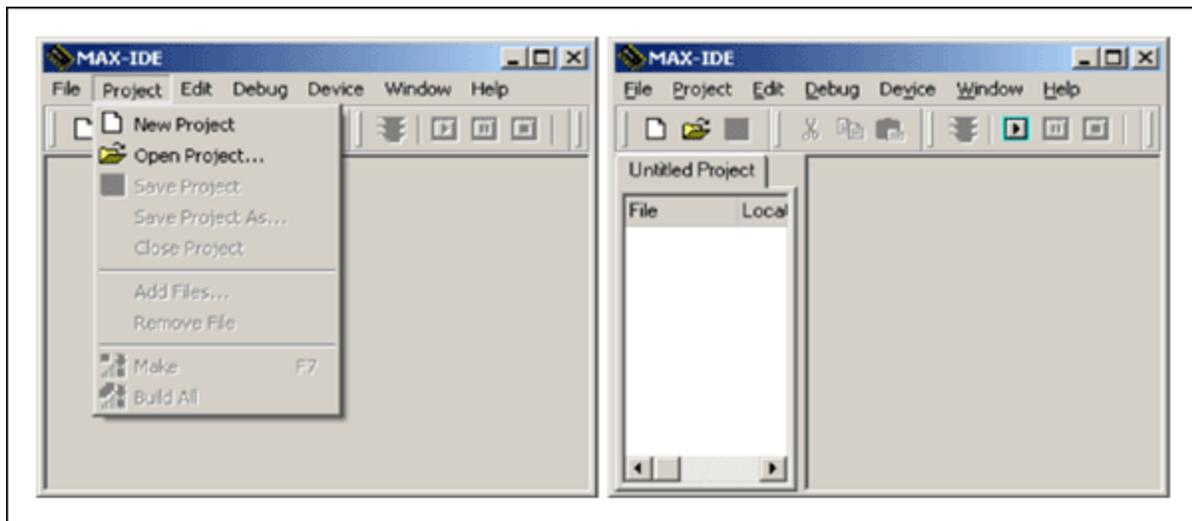

Figure 1. MAX-IDE's initial screens used to create a project.
**Step 1:** Choose **Project**→**New Project** from the menu. A new tab will open in the left side of the MAX-IDE's main window. This tab will be empty as there are no files in the project at present. **Figure 1** shows the MAX-IDE main menu with project menu open.